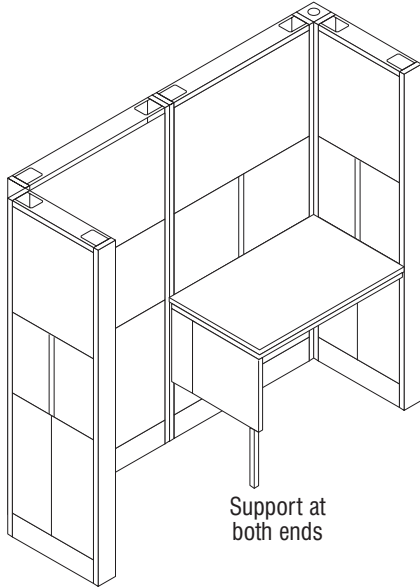

Figure 1-8
6. A single cantilevered work surface attached to a wall frame must be supported as shown in Figure 1-8.